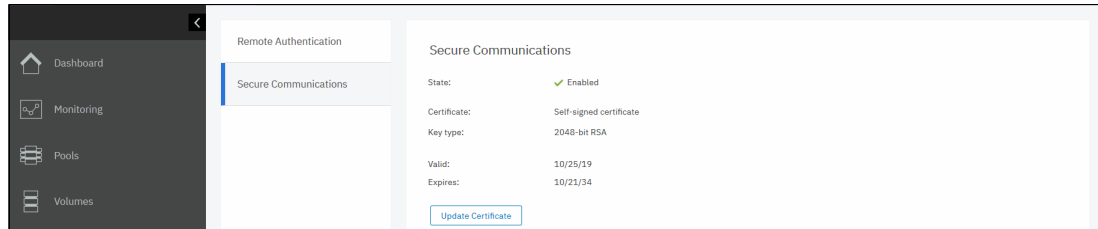

Figure 3-50 Accessing the Secure Communications window
To see the details of your system certificate, select **Settings** → **Security** and click **Secure Communications**, as shown in Figure 3-50, or run the `lssystemcert` command.
1. Select **Update Certificate** on the Secure Communications window, as shown in Figure 3-50.